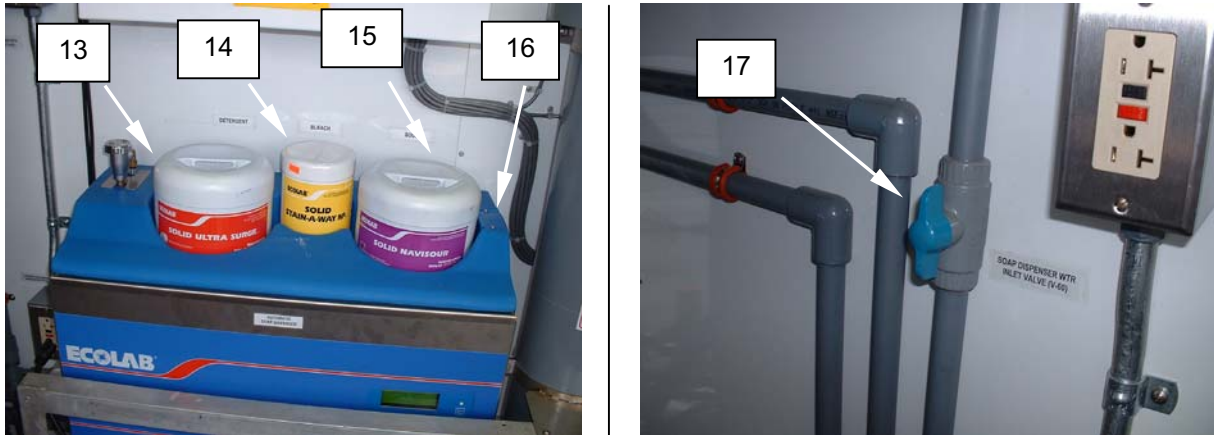

Figure 4. Purge Automatic Soap Dispenser.
1. Verify soap containers (Detergent (**Figure 4, Item 13**), Bleach (**Figure 4, Item 14**), Sour (**Figure 4, Item 15**) are installed in the automatic soap dispenser (**Figure 4, Item 16**).
2. Open soap dispenser water inlet (**Figure 4, Item 17**).